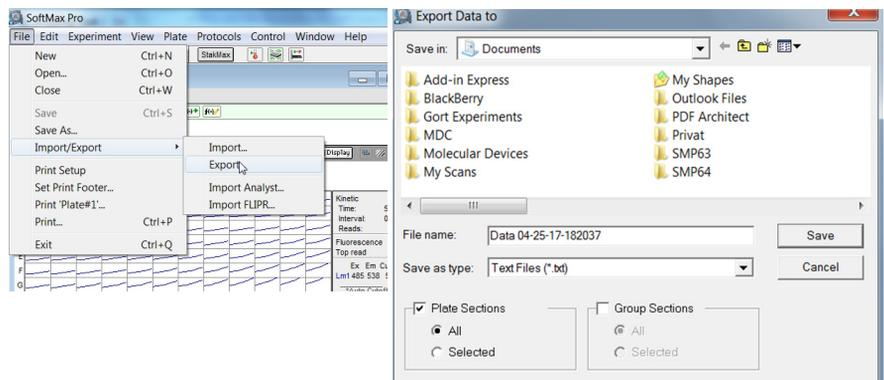

Figure 12. Exporting a data file from Softmax 4/Softmax 5.
- 2 Return to the open Experiment data file. Select **File**, click on **Import/Export**, select **Export**, the **Export Data to** window appears. See **Figure 12** on page 22.
- 3 Select **Plate Sections**, and click on **All**. Ensure **Group Sections** are deselected, save the files as .txt file type, and click **Save**. See **Figure 12** on page 22.